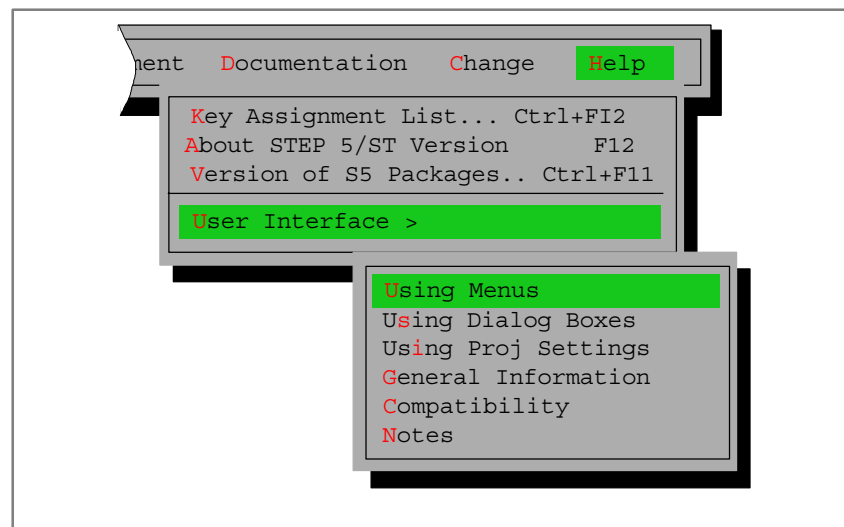

Figure 3-3 Help Menu
- **Help topics:** Provides various ways of displaying help information, see Figure 3-3.
- **Using Help:** See Figure 3-3 menu **Hel > User Interface >** or the **Help Shift+F8** key displays a description of the options available to find certain information in the help system.